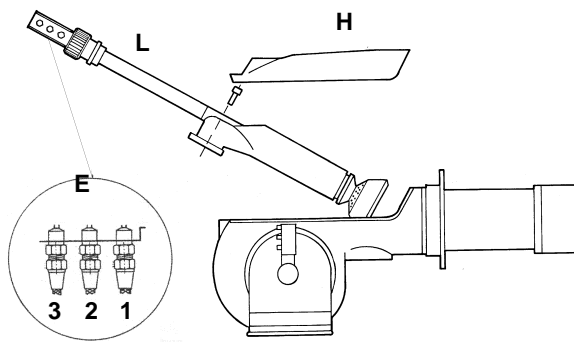

Fig. 22
- Remove, clean and check the combustion head (see Fig. 22).
- 3 unscrew the revolving connectors (E in Fig. 22) on the fuel pipes (use 2 spanners to avoid loosening the connections attached to the distributor block) loosen the screw VRT to free the threaded rod AR, then screw out the 2 screws V holding the washer R and the screw VRT in position
- 4 remove the whole assembly as shown in Fig. 22